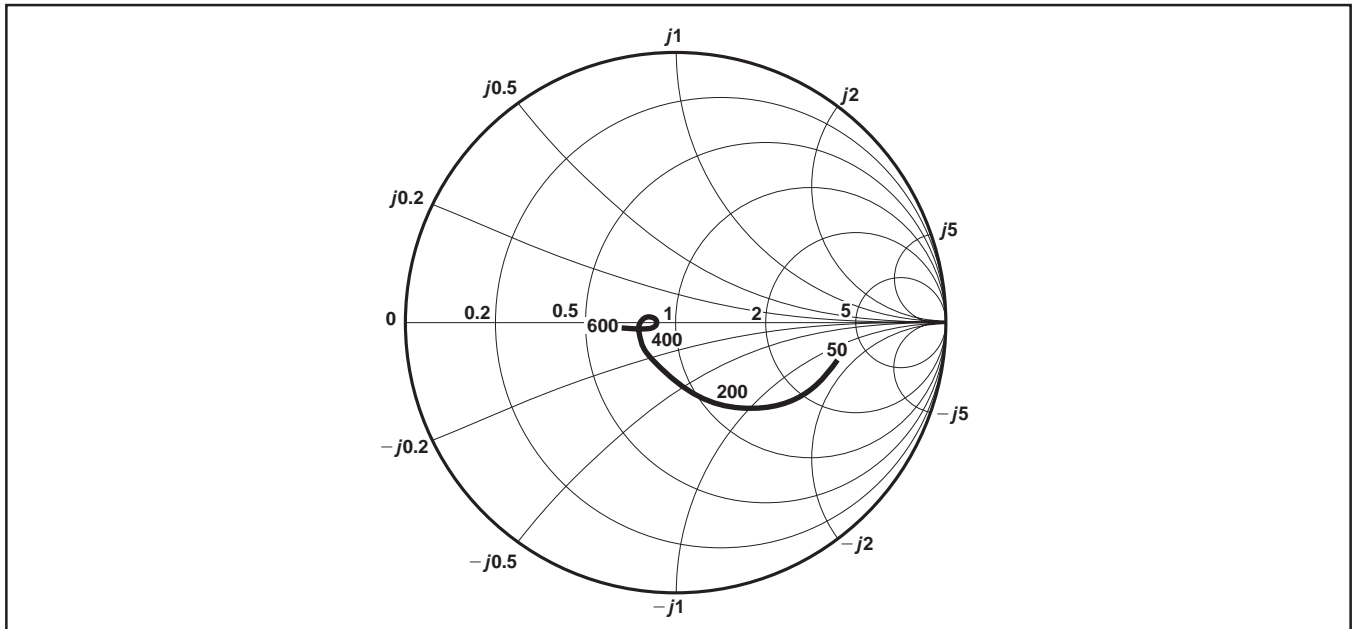

Fig. 4 Typical input impedance. Test conditions: supply voltage = $-5.2V$, ambient temperature = $25^{\circ}C$, frequencies in MHz, Impedances normalised to 50Ω
4. Input impedance is a function of frequency, see Fig. 4.